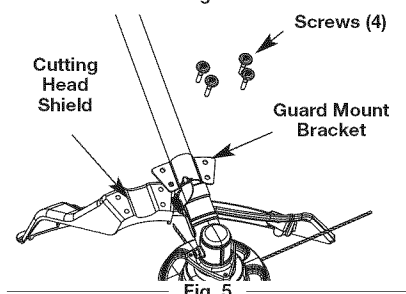

Fig. 5
1. Place the cutting head shield onto the guard mount bracket, making sure to align the holes on the shield with the ones in the guard mount bracket. (Fig. 5)
3. Using a Flat Head or T-20 screw driver, tighten the screws until the shield is firmly in place. (Fig. 5)